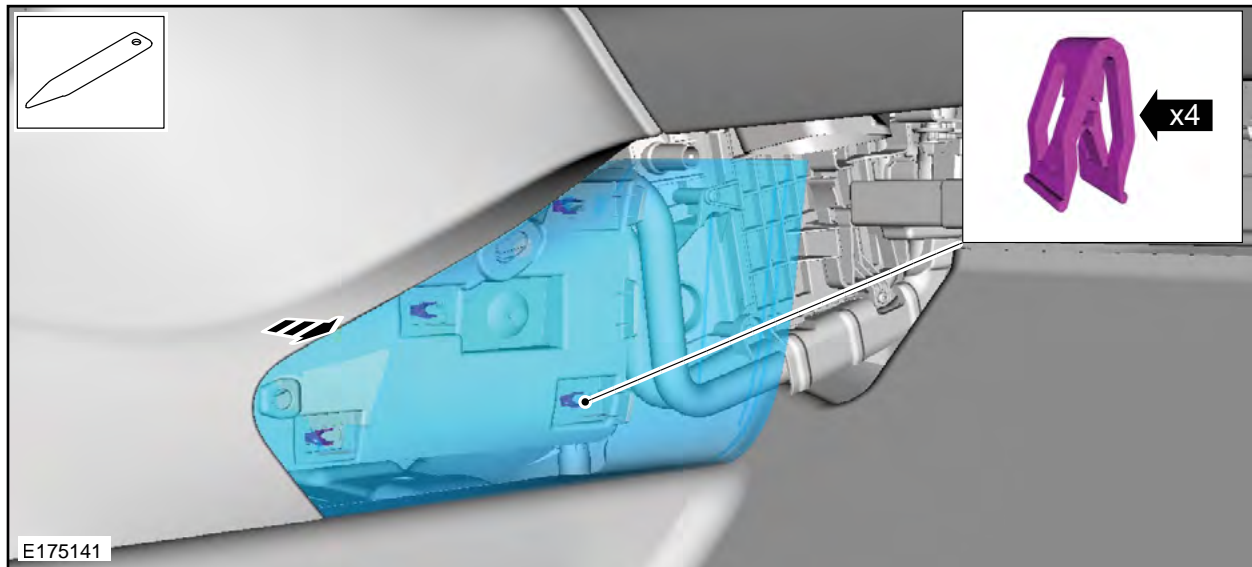

FIGURE 1
2. Remove the RH lower floor console trim panel. See Figure 1.
5. Install the RH lower floor console trim panel. See Figure 1.